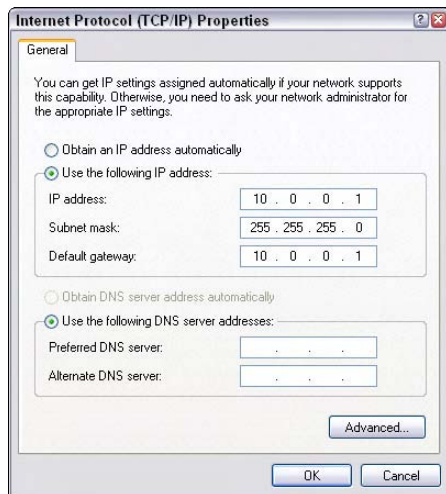

Figure 45-2: You can find the IP Address in the Internet Protocol (TCP/IP) Properties dialog box.
5. The Internet (TCP/IP) Protocol Properties dialog box has an important piece of information, called IP Address, shown in Figure 45-2. Do one of the following:
5. After Windows finishes copying the files, TCP/IP is installed but not configured. To configure the protocol, select it and click the Properties button. The Internet (TCP/IP) Protocol Properties dialog box opens, shown earlier in Figure 45-2.